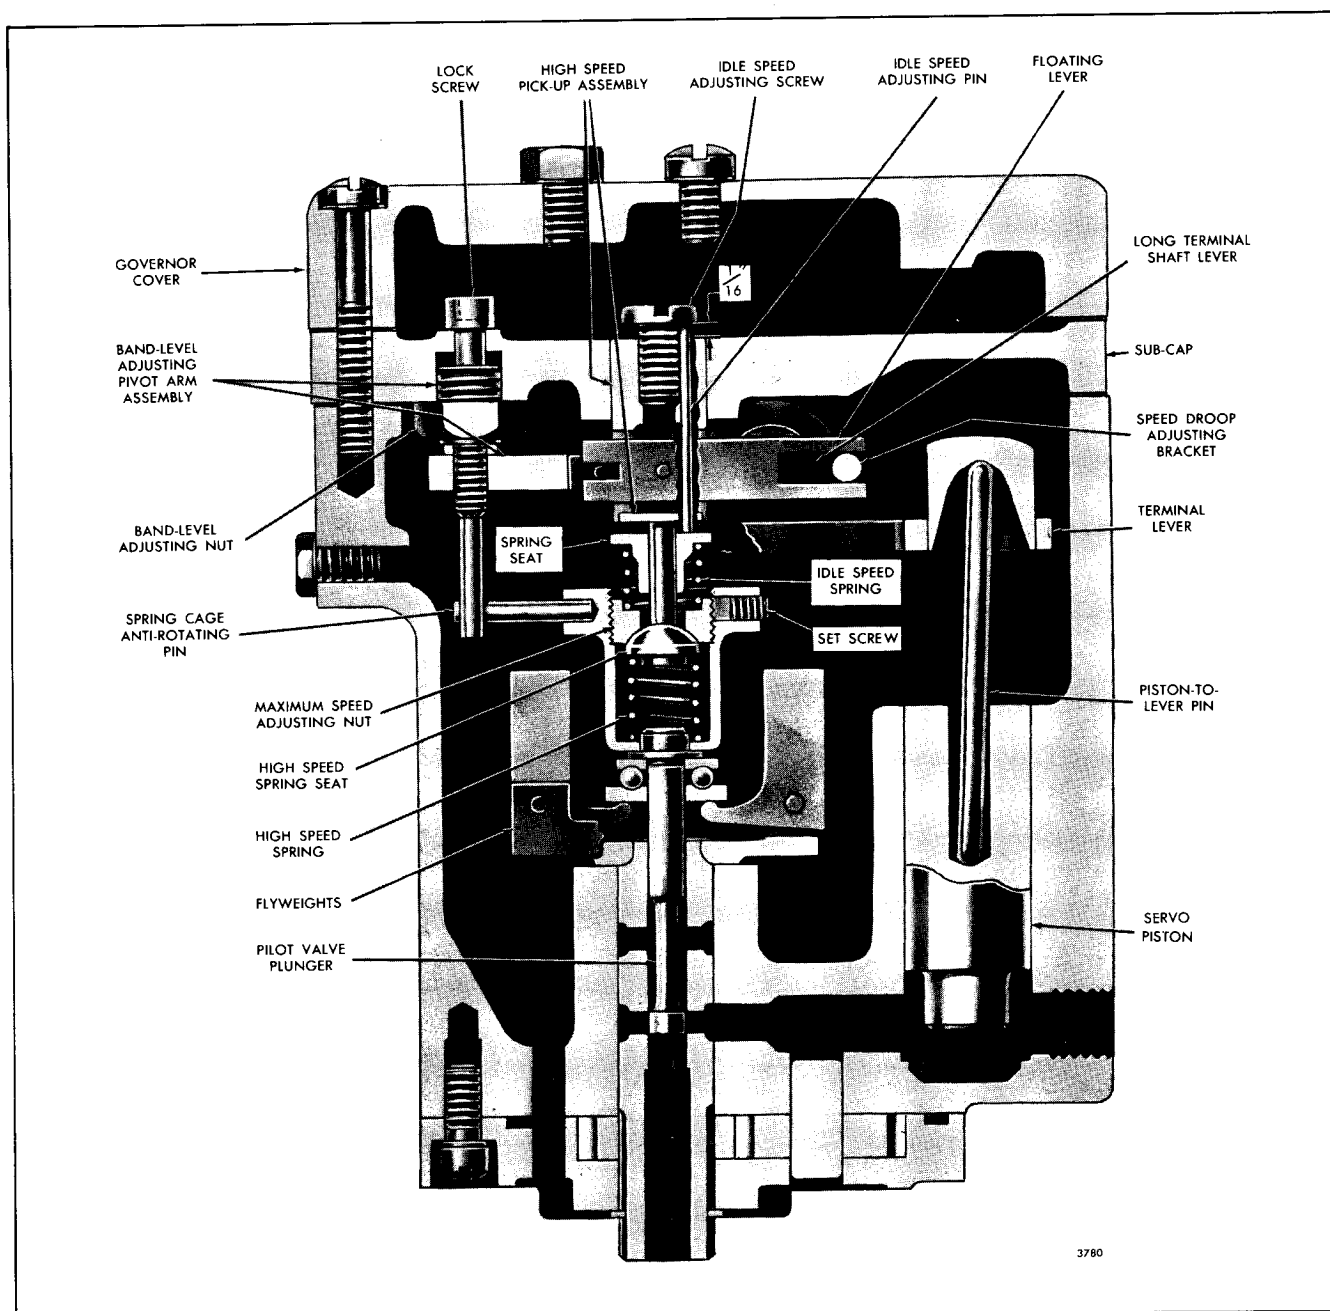

Fig. 8 - Cross-Section of Limiting Speed Hydraulic Governor for 16V Engine
2. With a long thin screw driver, pry one of the flyweights outward with a light force (Figs. 8 and 9). It should reach a vertical position. If not, proceed with Step 3.
3. Loosen the band-level pivot arm lock screw and turn the band-level adjusting nut (Figs. 8 and 10) clockwise to raise the band-level or counterclockwise to lower the band-level. Tighten the lock screw to draw the pivot arm assembly in place. Then, check the adjustment as described in Step 2. Readjust the band-level, if necessary.
There should be approximately 1/16" clearance between the bottom of the idle speed adjusting screw head and the plunger directly under the screw head (Fig. 8).
screw (Figs. 8 and 10) in or out until the desired idle speed is obtained.
2. Loosen the small set screw (on the side opposite the anti-rotating pin) in the high speed spring cage with a 5/64" Allen wrench (Figs. 8 and 12).